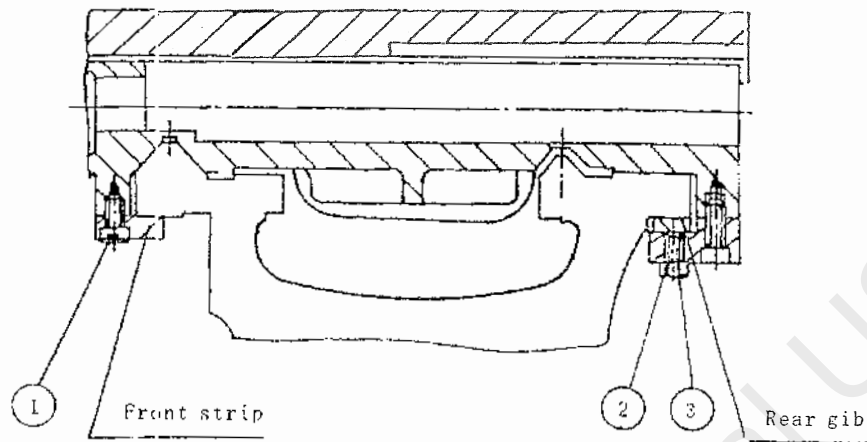

Fig. 15 Gib and Strip Adjustment
6.4 Saddle adjustment (refer to Fig. 15)